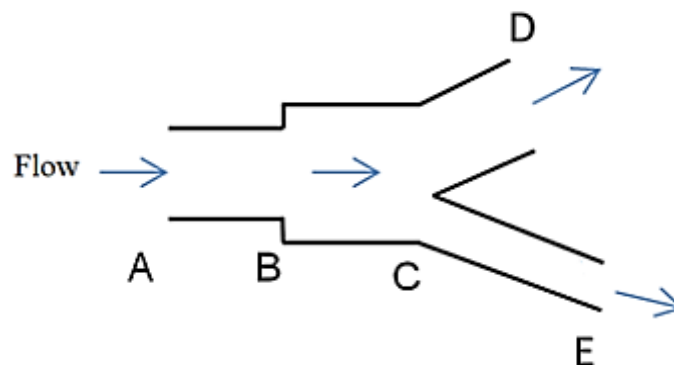

Figure 5: Series Pipeline
- (b). Assuming frictionless, incompressible, one-dimensional flow of water through the series pipeline shows in **Figure 5**. The water flow through pipe AB 60 mm in diameter and then pass through BC which is 90 mm in diameter. At C the pipe forks into branch pipe CD and branch pipe CE. The velocity at pipe BC is 2.5 m/s and volume flowrate of branch CD is double than branch CE. Calculate (a) The volume flow rate for pipe AB, BC, CD and CE, (b) The velocity in pipe CE, (c) The diameter of pipe CD.